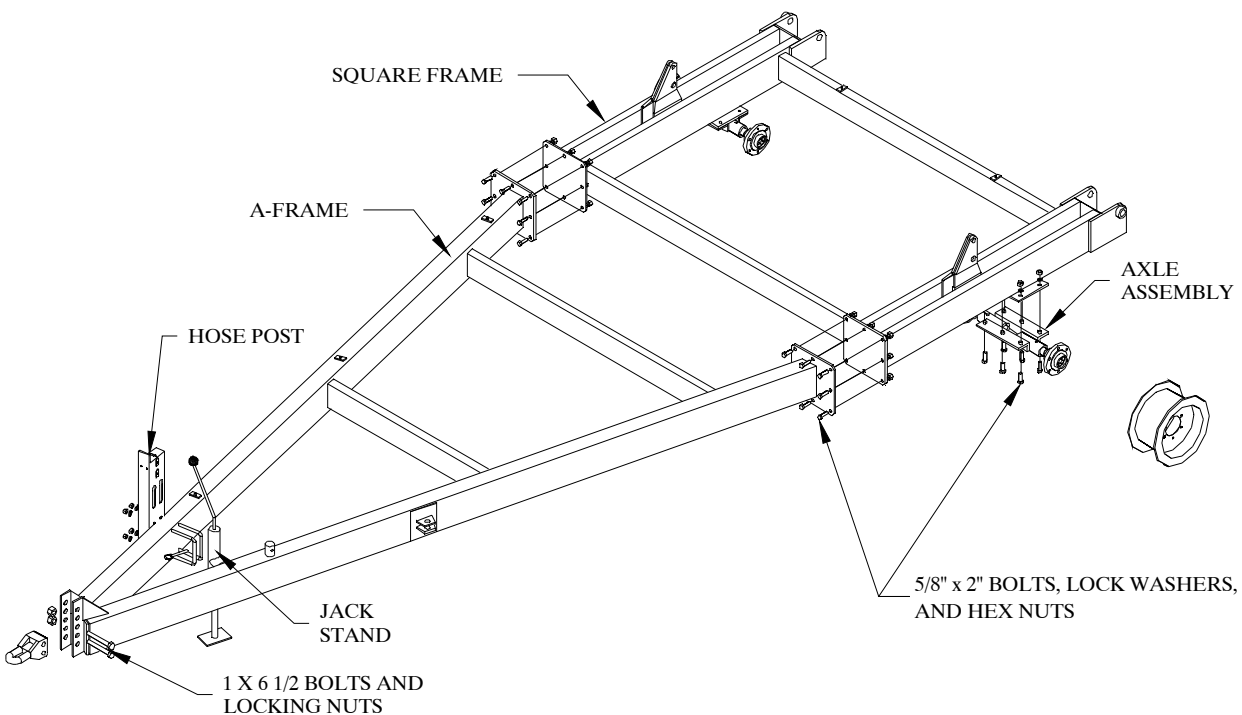

Figure 2
1. Bolt the square frame to the A-frame. Refer to Figure 2. Use sixteen 5/8" x 2" bolts, lock washers, and hex nuts.